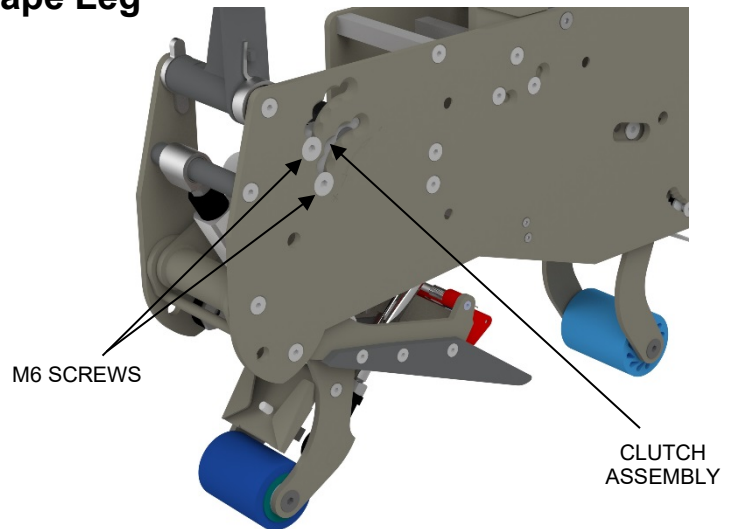

Figure 7-12
To adjust the tape leg length on the front panel of the box, refer to **Figure 7-12** of the clutch assembly. Facing the rear main frame, loosen the two (2) M6 Flat Head Cap Screws using a 4 mm hexagonal key. Move the clutch assembly to bring it towards the minus (-) sign stamped on the plate for a shorter tape leg. Conversely, bring the M6 screw towards the plus (+) sign for a longer tape leg. Re-tighten both M6 Flat Head Cap Screws.